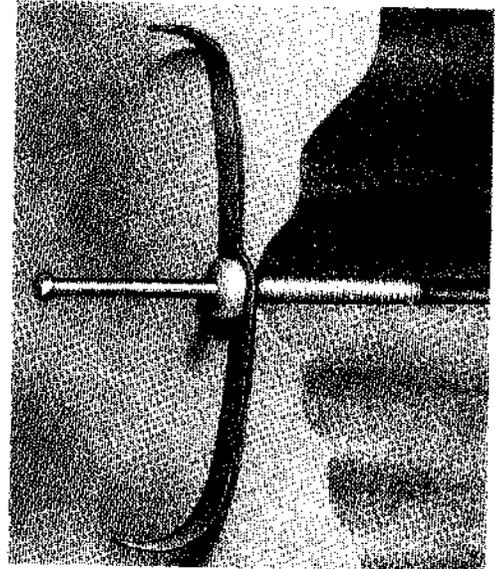

Fig. 27 – C Plastic Anchor, Cable Clasp
- C Plastic Anchor (Fig. 27 and 29)